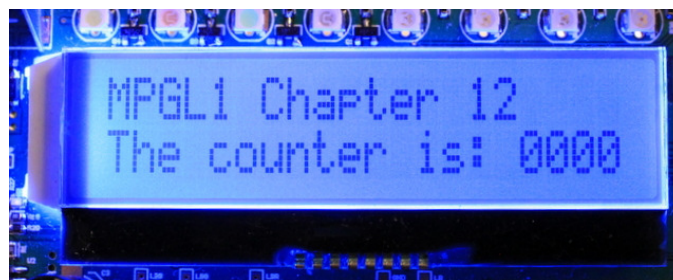

Figure 12.6.1: Exercise 1 solution display
1. When BUTTON1 is pressed, output the string "The counter is: " followed by the 4-digit counter on Line 2 as shown in Figure 12.6.1. Each time the button is pressed, overwrite the value on Line 2 with the new counter value.